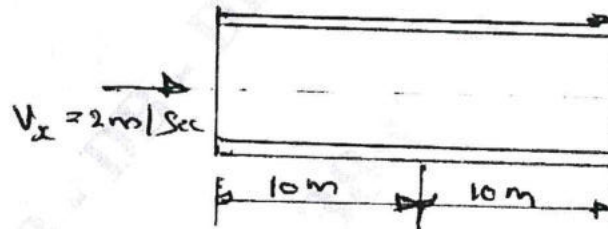

Fig.Q8(b)
b. For the smooth pipe shown in Fig.Q8(b) with uniform cross section of 1 m^2 , determine the flow velocities at the centre and right end, knowing the velocity at the left is $V_x = 2 \text{ m/sec}$.